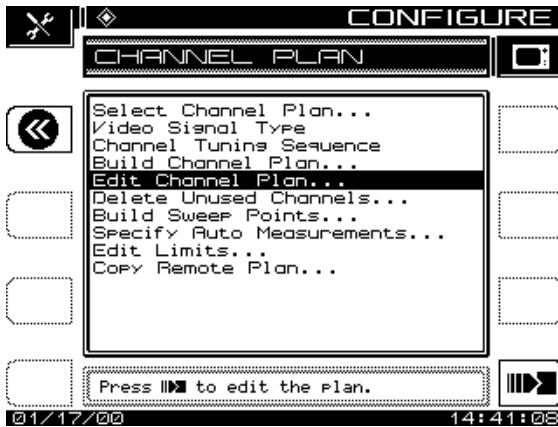

Fig. 14-5 The Channel Plan Main Menu
2. Press the **Channel Plan** soft key and select *Build Channel Plan* from the list (see Figure 14-5).